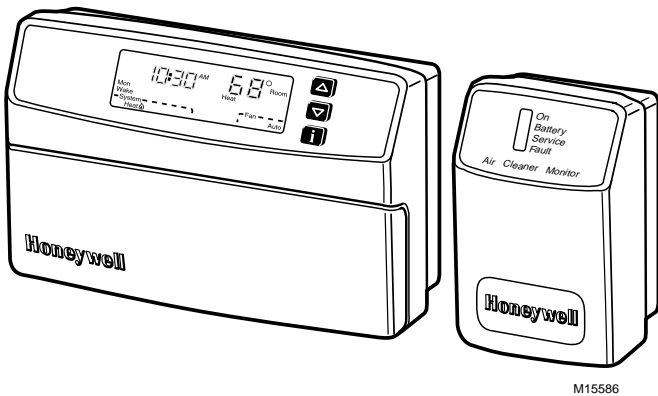

Fig. 13. Complete T8600/W8600F installation.
15. Push the W8600F reset button. All four indicators on the display will flash 5 times. The ON indicator will stay active as long as the EAC and system fan are on. See Fig. 13.